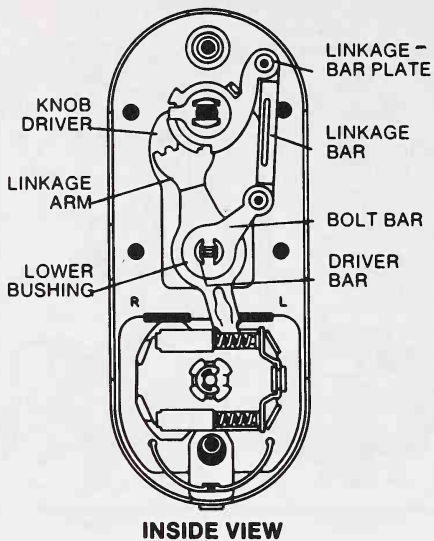

Fig. 18-74.
3. Remove the linkage-bar plate, linkage bar, bolt bar, driver bar, knob-driver linkage arm, and lower bushing (Fig. 18-74).